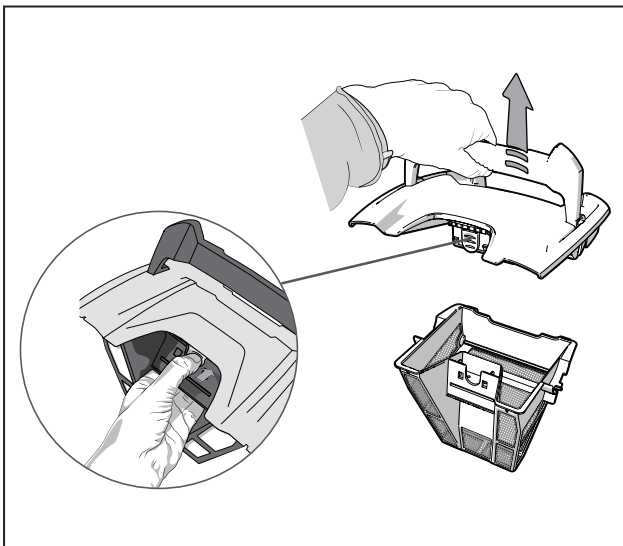

Figure 9. Remove Filter Canister Lid
4. Press the interior latch and remove the filter canister lid. See Figure 9.